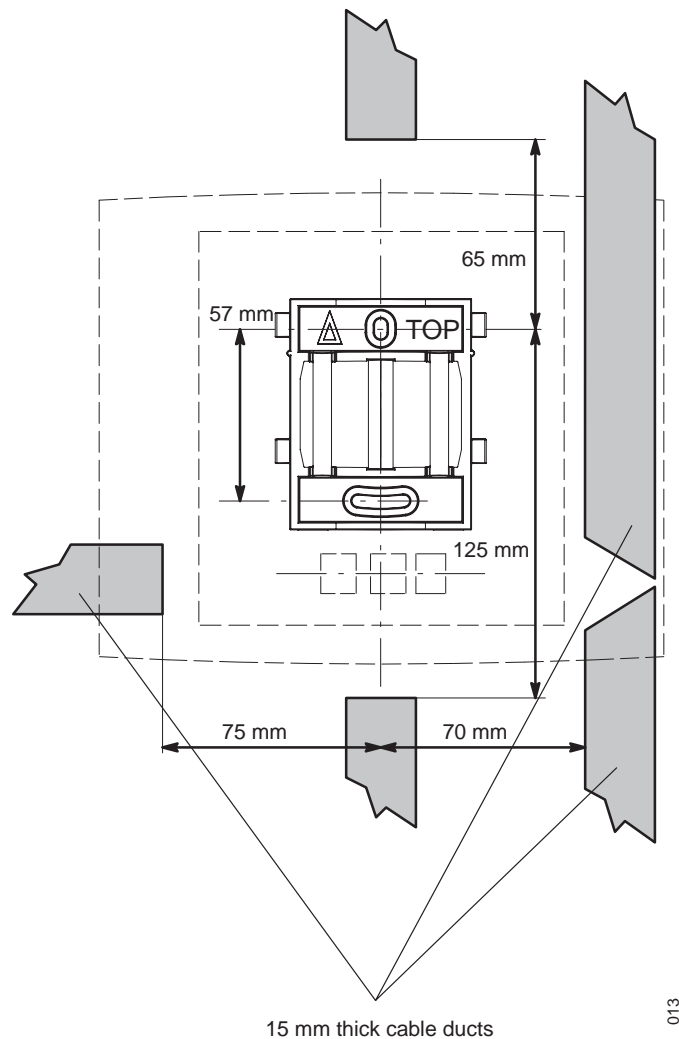

Figure 8. Minimum distances between a cable duct and the mounting bracket
- 1 Fix the cable duct to the wall in one of the positions shown in figure 8 on page 26.